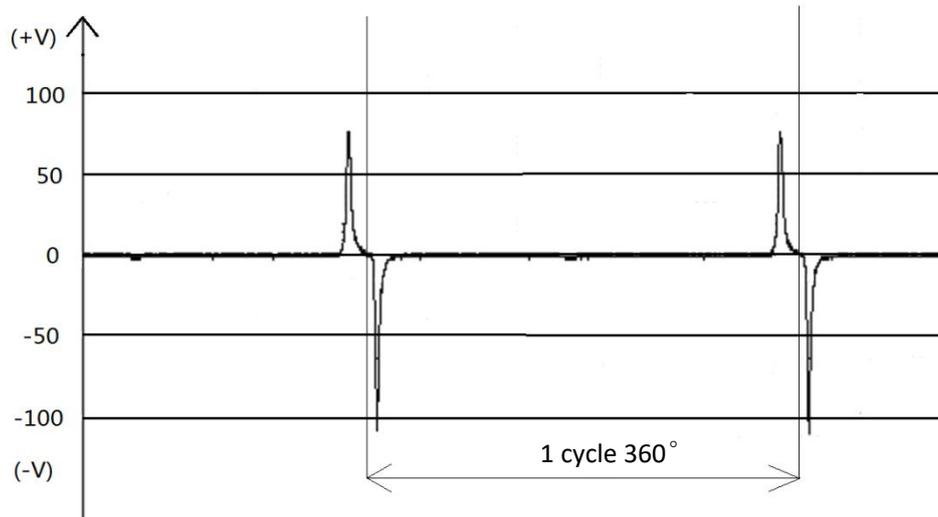

Fig. 51
Feeding wires (1) from the generator to rectifier-regulator on left side of ignition housing (see Fig. 51).